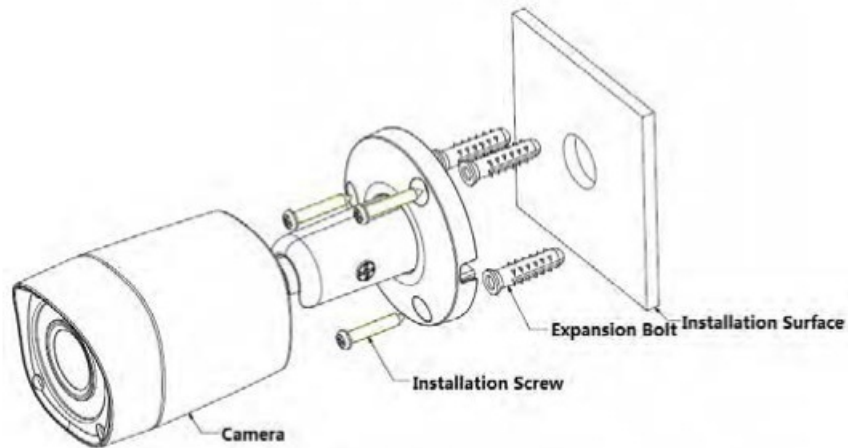

Figure 3-9
- Please install the expansion bolt if you want to install in the cement wall (Please make sure the installation holes of the expansion bolts are the same with the bracket.) Then you can install the bracket. See Figures 3-9.